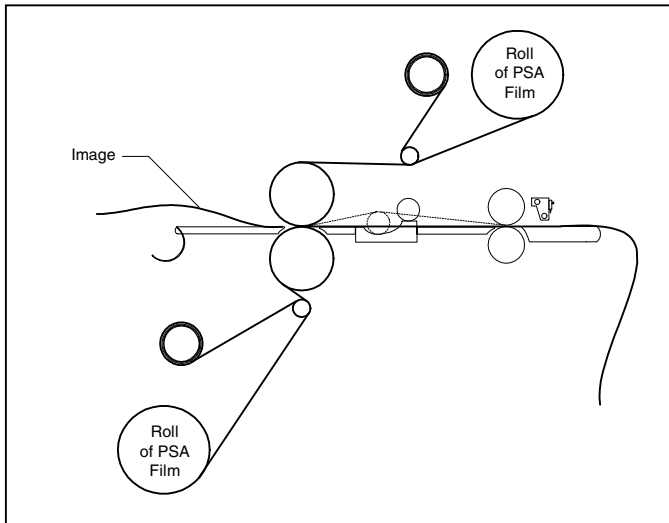

Fig. 41
#### TIPS FOR PSA ENCAPSULATION (Figure 41)
1. Load the laminator as illustrated in Figure 41.